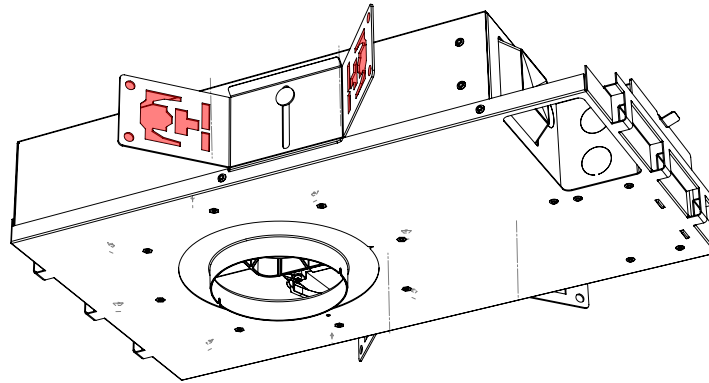

fig. 8
- a. Use bar stock or C-Channels (not provided) to mount the D3 in the ceiling. The supports should go through the holes in the butterfly brackets and can be used to suspend the D3 without screws. (see fig. 8)